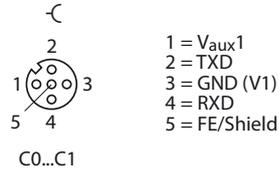
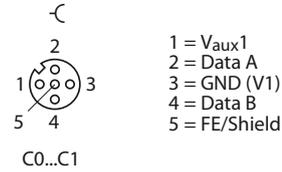

Fig. 11: COM port x in RS232 mode
Fig. 12: COM port x in RS485 mode
- Connect serial devices to the COM ports according to **Fig. 11: COM port x in RS232 mode** or **Fig. 12: COM port x in RS485 mode**.